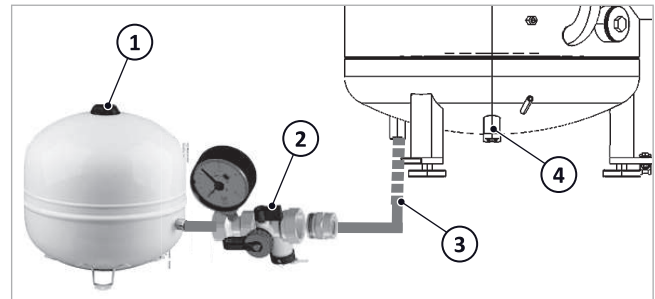

Fig. 3: MEV with connection group on the SolvisBen
The SolvisBen can be enhanced with a thermal solar system. It already includes a solar stratified charger → fig. 3 (4) for optimal stratification of solar heat in the storage tank and all the control functions for solar operation in the system controller.